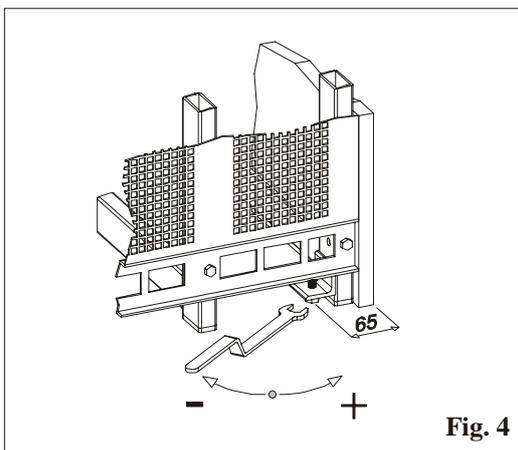

Fig. 4
- Once positioned in the desired area, make the display cabinet level using the adjustable feet (fig. 4).